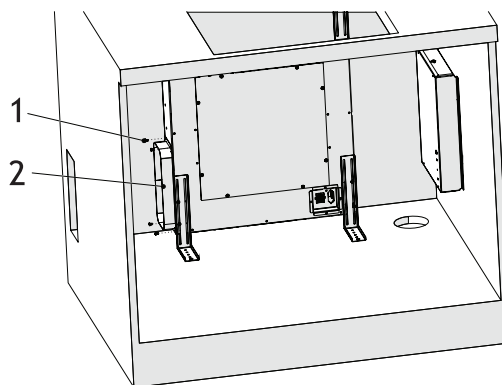

Fig. 24
12. ➔ Install air exhaust adaptor on the housing using 4x 3.5x6.5 screws (Fig. 24).